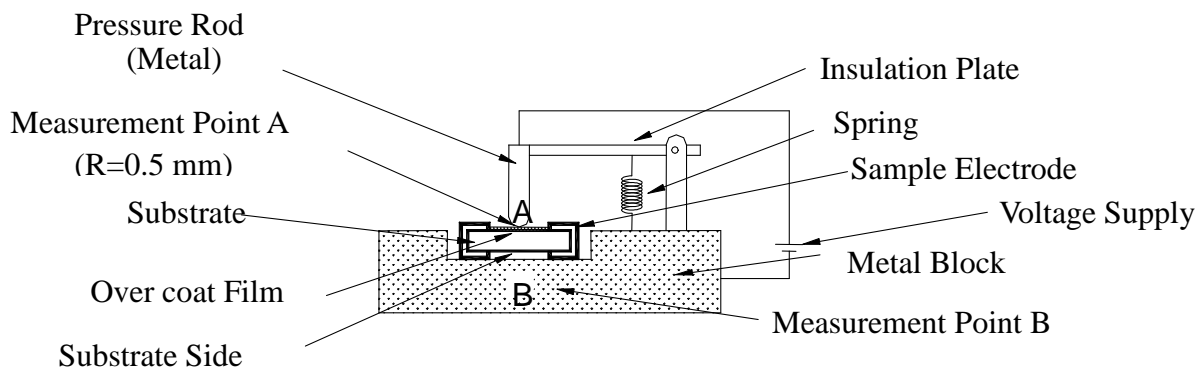

Figure 1 : Measurement Setup
| Insulation Resistance | Over 100 M Ω on Overcoat layer face up Over 1,000 M Ω on Substrate side face up | (1) Setup as figure 1 (2) Test voltage: 100V _{DC} ±15V _{DC} (3) Test time: 60 + 10 / - 0 seconds |
| Voltage Proof | Resistance range:±1.0% Without damage by flashover, spark, arcing, burning or breakdown | (1) Setup as figure 1 (2) Test voltage: 400V _{AC} (rms.) (3) Test time: 60 + 10 / - 0 seconds |